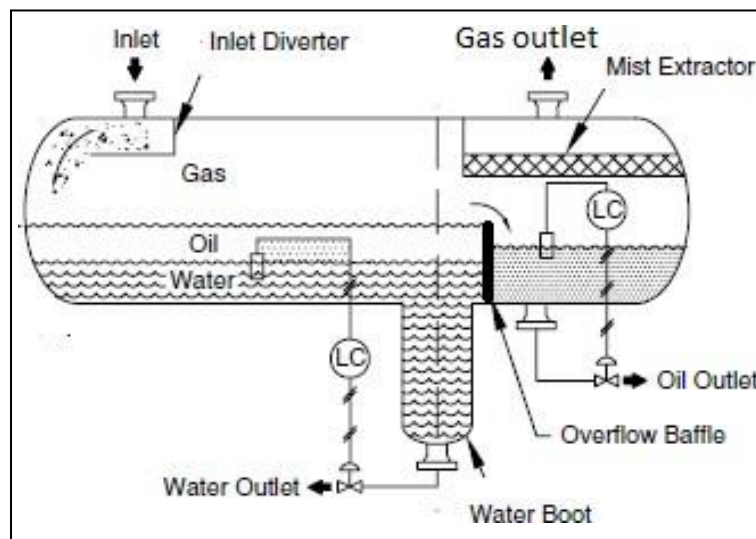

Figure 2. Typical Three Phase Separator (horizontal)
- In this case, wells with decreased well pressure would be rerouted to a lower pressure separator, thus maximizing production. Figure 2 shows a typical flow scheme of 3 stages separation.